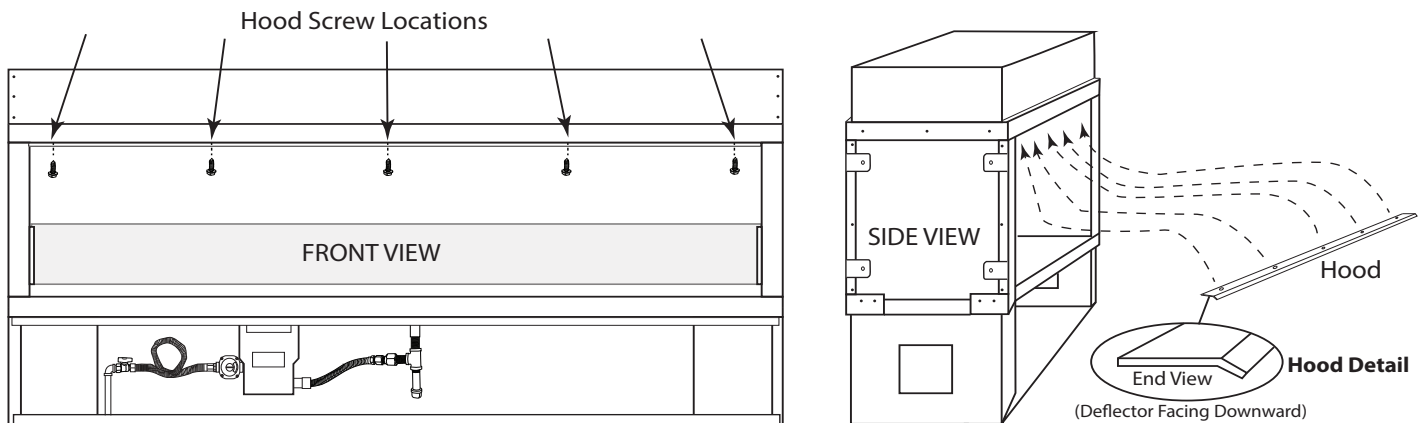

Fig. 27 Installing hood(s) on the fireplace.
The fireplace requires a hood to be installed into the upper opening of the firebox. All models require five (5) screws to secure the hood to the fireplace except the 72-inch model, which uses seven (7) screws to secure the hood. The hood protrudes 1-inch from fireplace opening. Fig. 27 shows hole location and installation process for hood installation. The protruding area of the hood is to be angled downward for proper installation, see Hood Detail below.